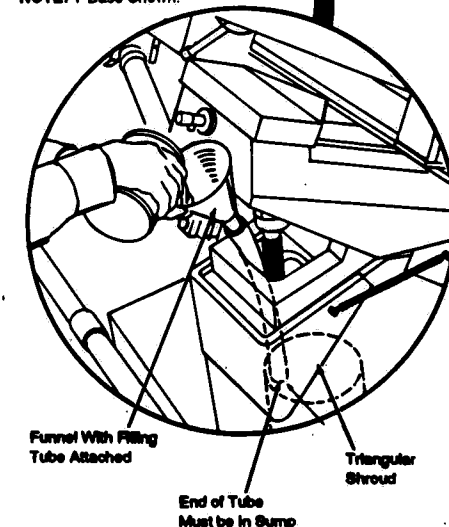

Figure 3-1. FILLING SUMP WITH HYDRAULIC OIL (Table with Lateral Tilt).
1. Tables With lateral Tilt (Figure 3-1)